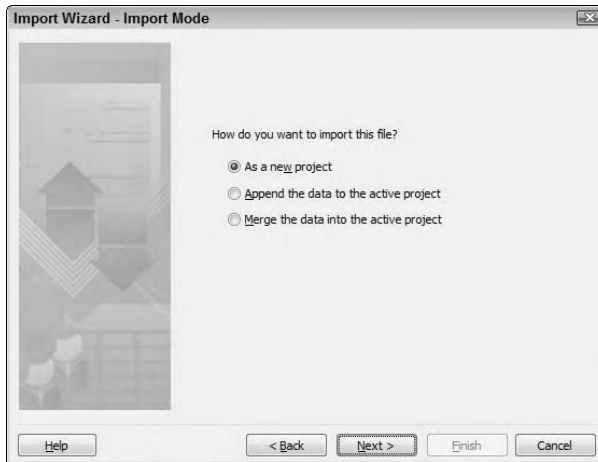

Figure 2-8:
7. On the next wizard screen (see Figure 2-8), choose the method for importing the file.